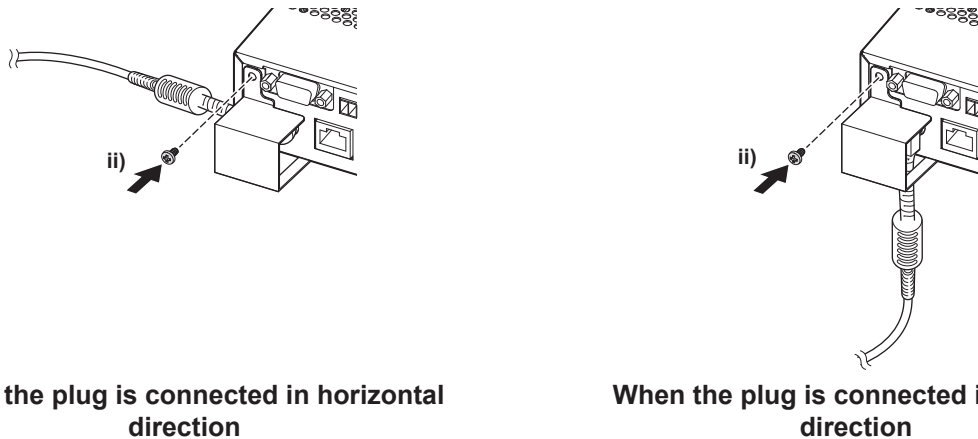

Fig. 3
- ii) Attach the bracket so that the plug of the AC adapter is covered, and secure with 1 supplied screw (M3x6). (Fig. 3)